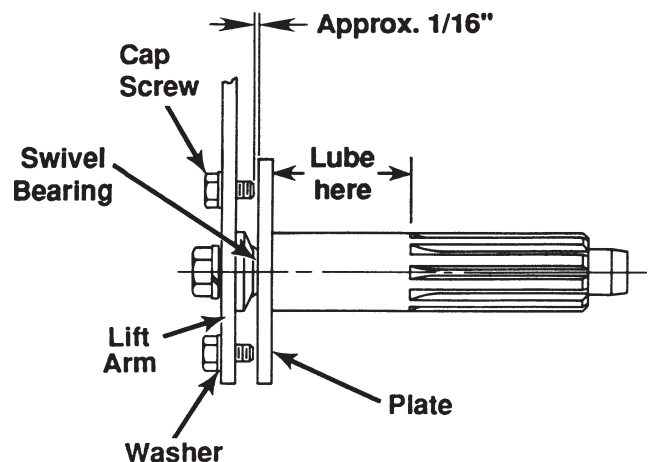

Figure 1
7. Measure distance between plate (#15) and cap screws (#14). If distance is less than 1/16", remove two cap screws (#14), and insert a washer (#7) between each cap screw (#14) and upper lift arm. Wrench tighten. See Figure 1.
2. Sparingly apply lubricant to the area of the splined input shaft shown in Figure 1.
1. Sparingly apply lubricant to the area of the input shaft shown in Figure 1.